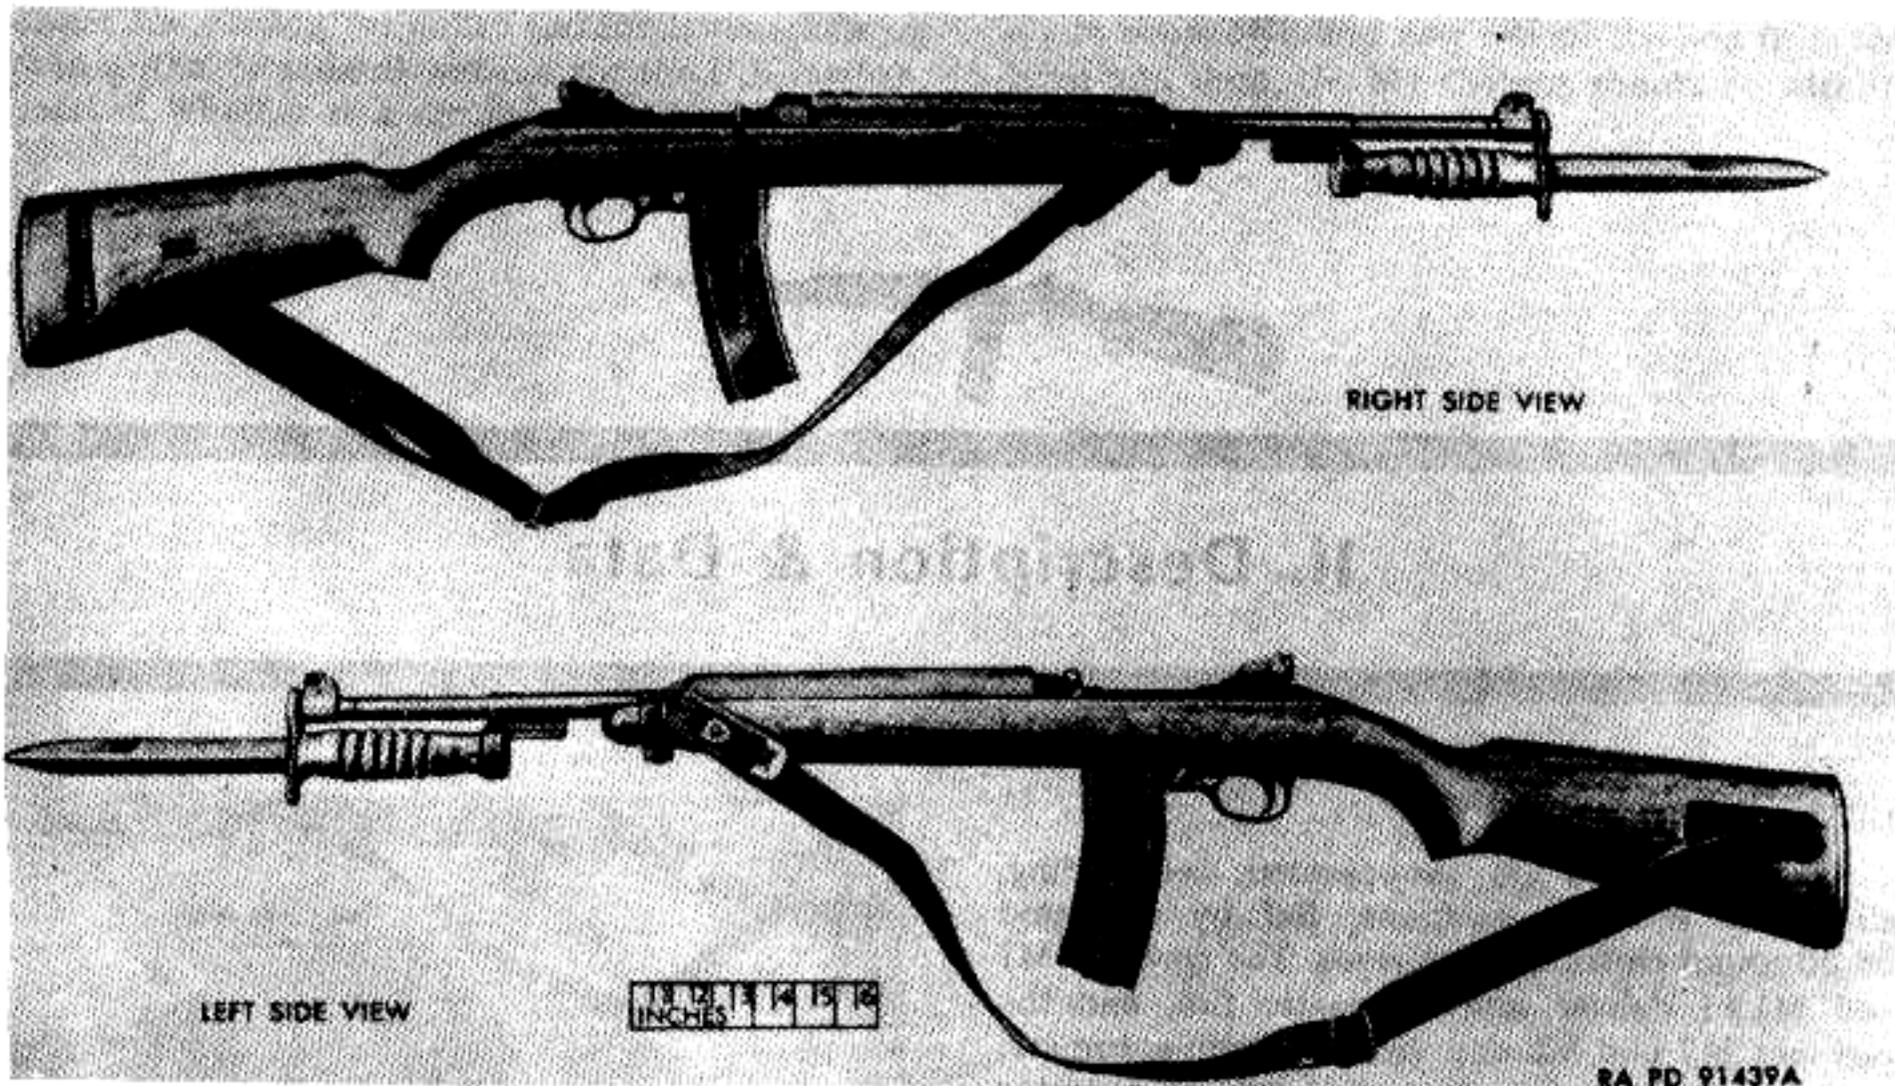

Figure 3. Cal. .30 carbine M2.
c. *Cal. .30 Carbines M2 and M3* (Figs. 3 and 3a). The carbine M2 is the same as the M1 except for differences in design of certain components and the addition of others (d below), which permit the M2 to deliver either semi-automatic or full automatic fire. The carbine M3 is the same as the M2 except that the rear sight is not included and the top of the receiver is designed to accommodate special sighting equipment (sniperscope) issued by the Corps of Engineers. Information on the sniperscope may be found in TM 5-9341.